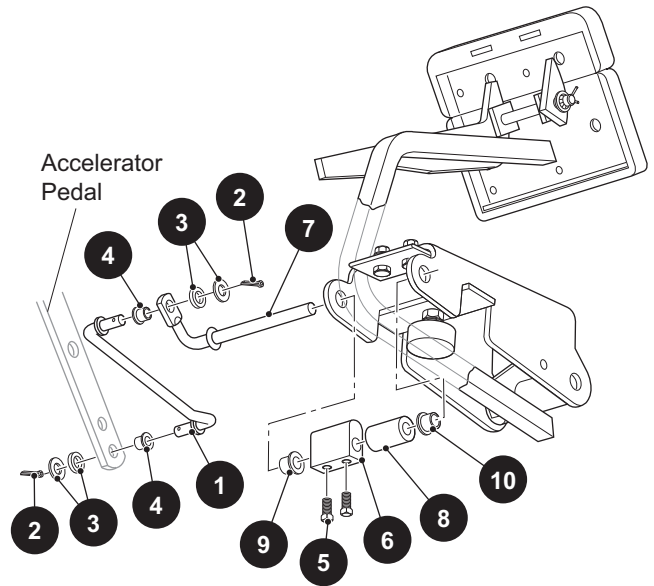

Figure 31 Parking Brake Release Linkage and Kick-Off Cam Removal and Installation
Remove the cotter pin (2), washers (3) and bushings (4) from the linkage rod (1). Remove the linkage rod (Figure 31).
Disconnect the parking brake release linkage as described above. Loosen the two set screws (5) from the cam (6) and remove the cam pivot (7), cam and spacer (8) (Figure 31).